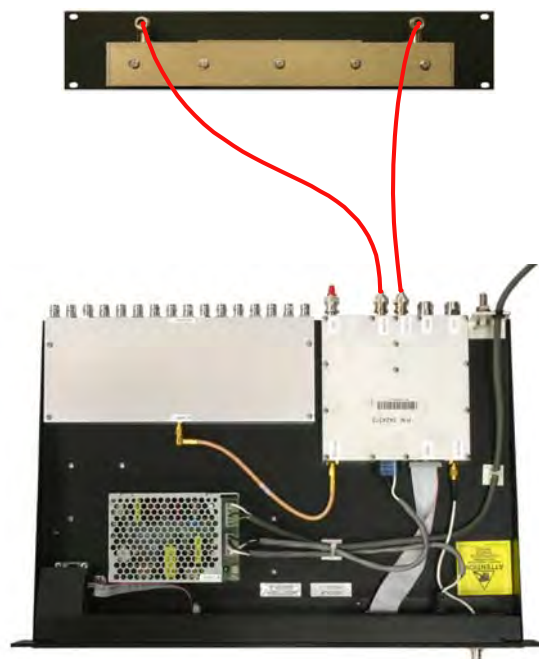

Figure 19: Connecting an Optional Filter to the Base Control Unit.
Table 8 lists all of the optional narrowband filters available. The additional filter will provide a narrower pass window for the system. The optional filter is connected to the back of either the base control unit at the two ports labeled Pin and Pout as shown in **Figure 19**. It is recommended that the filter be mounted in the same rack just above the control unit. The optional filter will require 2 “rack units” of space.
- 3) Locate a 24" BNC/N cable from the kit. Connect the "N" end of the cable to the input port of the optional filter. Connect the "BNC" end of the cable to the FILTER port on the rear of the Base Control Unit. Connect at the FILTER port closest to the Main Transmission port as shown in figure 19.
- 4) Locate a 24" BNC/N cable from the kit. Connect the "N" end of the cable to the output port of the optional filter. Connect the "BNC" end of the cable to the FILTER port on the rear of the Base Control Unit. Connect at the FILTER port that is furthest from the Main Transmission port as shown in figure 19.